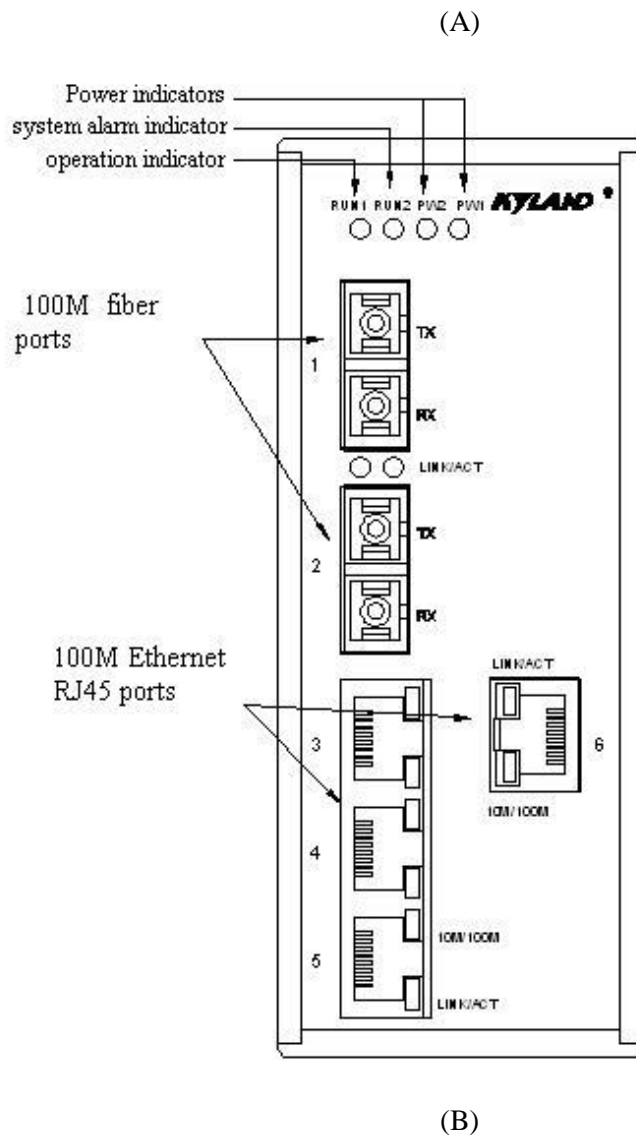

Figure 3-3 Front panel of SICOM3005 (A) with data port (B) without data port
(A) The front panel with data ports of SICOM3005 industrial Ethernet switch integrates 2 pairs of 100M fiber ports, 3 RJ45 ports of 10Base-T/100Base-TX, 4 RS232/485 data ports, indicators of data transmission and receiving, and indicators showing system and port operation. Its structure is shown as Figure 3-3 (A)
(B) The front panel without data ports of SICOM3005 industrial Ethernet switch integrates 2 pairs of 100M fiber ports, 4 RJ45 ports of 10Base-T/100Base-TX, and indicators showing system and port operation. Its structure is shown as Figure 3-3 (B)